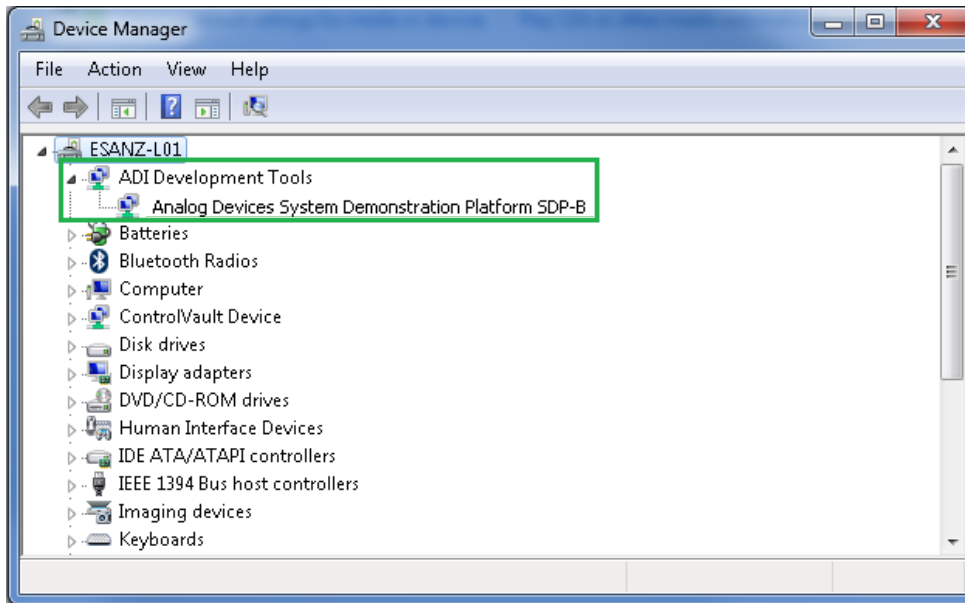

Figure 3. Device Manager Showing the SDP Board Connected
4. After installation of the software and drivers is complete, plug the EV-AD5415/49SDZ into the SDP board and the SDP board into the PC using the USB cable included in the kit. Confirm that the SDP board has been recognized and is displayed in the **Device Manager** dialog box by clicking **Start/Control Panel/System (Hardware)/Device Manager** (see Figure 3).